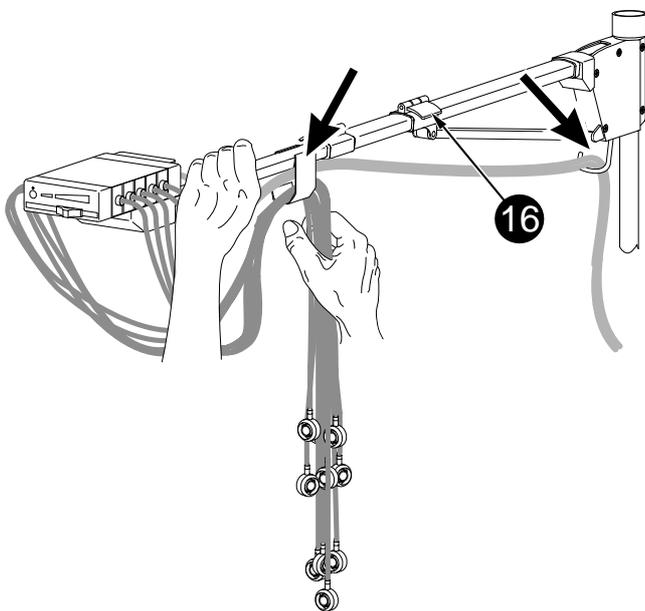

Figure 3-5. Securing the leads
- \* Route the joint suction and signal lead as shown in Figure 3-5.
- \* Secure the electrode leads as shown in Figure 3-5.
- \* When adjusting the height of the swivel arm, support the arm with one hand to prevent it from collapsing when you open clamp (16).